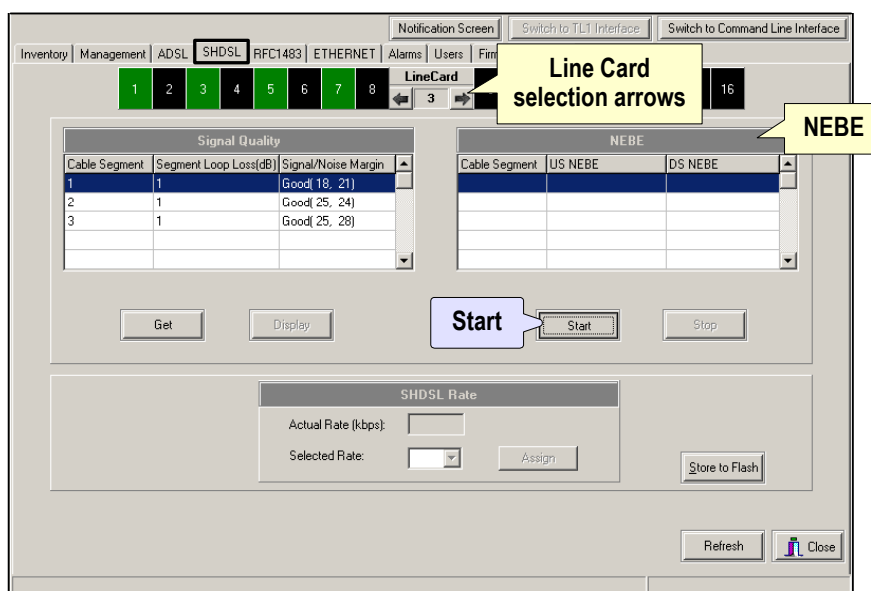

Figure 65 – Start NEBE data collection
*The **SHDSL** screen (Figure 65) appears.*